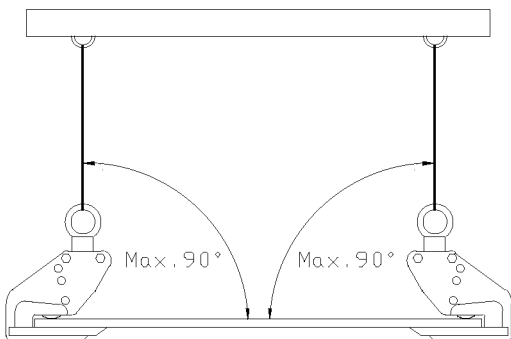

Figure 4
7. Never exceed a ninety degree (90°) angle between material and sling (Fig. 4).
9. A spreader bar may be used with the slings perpendicular to the plate (Fig. 4).
11. If a clamp has been overloaded or damaged in any way, take the clamp out of service until proper repairs and/or testing has been completed (see “Monthly Inspection” items 2 and 3 for description of overload symptoms).